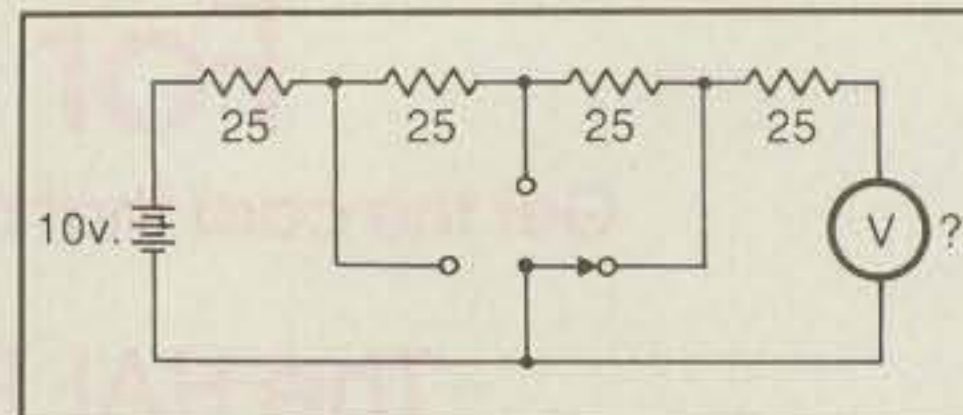

Fig. 7- "Dead Band" puzzle. What is the reading of the voltmeter when switch is placed as shown?
Question 1: Examine the circuit of fig. 7. With the switch in the position shown, what is the reading of the voltmeter (V)? (Quiz first appeared in QST, Feb. 1959.)